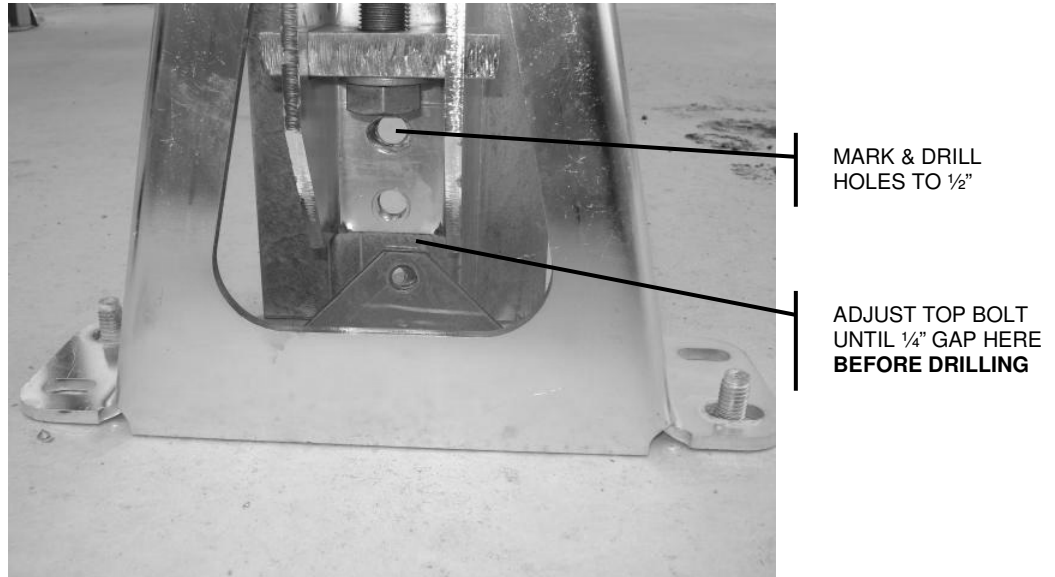

FIGURE 4
**Step 11:** Drill two anchor bolt holes in the pad diagonally opposite of each other. You will see that the 'A' frame has four slotted holes, but only two of them are required. The other two holes are there in case it is necessary to relocate a hole. Make sure the holes are deep enough to fit the full length of the anchor bolt. See Figure 4.